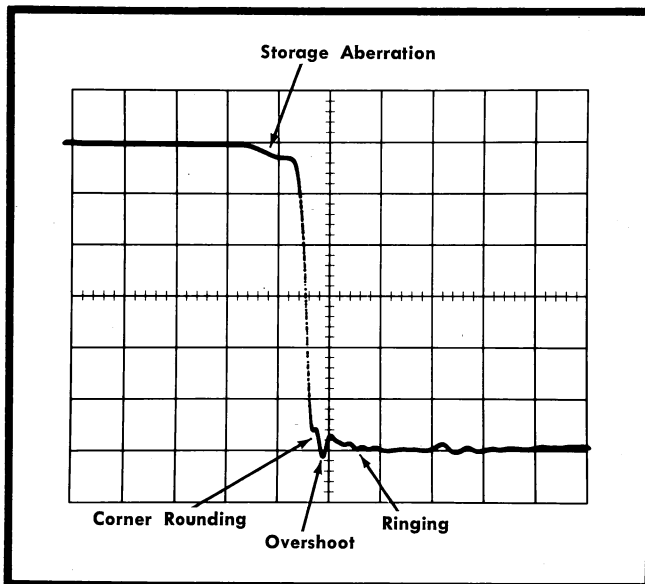

Fig. 6-19. Typical sampling-system display showing trailing-edge aberrations.
c. Check—Sampling-system display for storage aberration 0.3 division or less (5% maximum; see Fig. 6-19).
d. Check—Sampling-system display for corner rounding 0.6 division or less (10% maximum see Fig. 6-19).
e. Check—Sampling-system display for ringing 0.6 division or less (10% maximum; see Fig. 6-19).
f. Check—Sampling-system display for overshoot 0.3 division or less (5% maximum; see Fig. 6-19).
d. Check—Sampling-system display for droop 0.06 division or less (1% maximum; see Fig. 6-19).